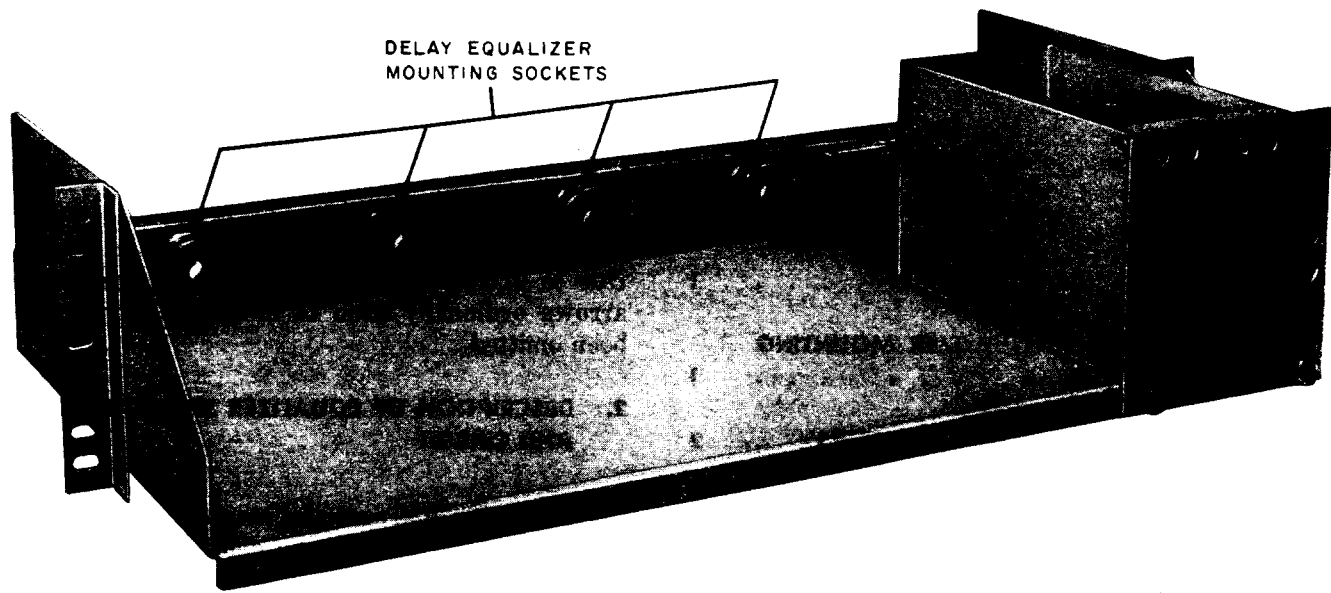

Fig. 1—Equalizer Mounting Shelf With Four Open Positions
2.01 The J99292C equalizer mounting shelf accepts four 384- or 385-type delay equalizers, two 359-type amplitude equalizers, a 227-type amplifier, an optional 1C pad, and 89-type resistors as required (Fig. 1, 2, and 3). All of these items are equipped to plug into the mounting shelf, which also provides access jacks. The sockets for the equalizers are wired in series; therefore, if a full complement of equalizers is not required, dummy plugs must be used to complete the circuit. The dummy plug for the 384- and 385-type equalizers is the 433A plug; the dummy plug for the 359G equalizer is the 359E; the dummy plug for the 359H equalizer is the 359C.